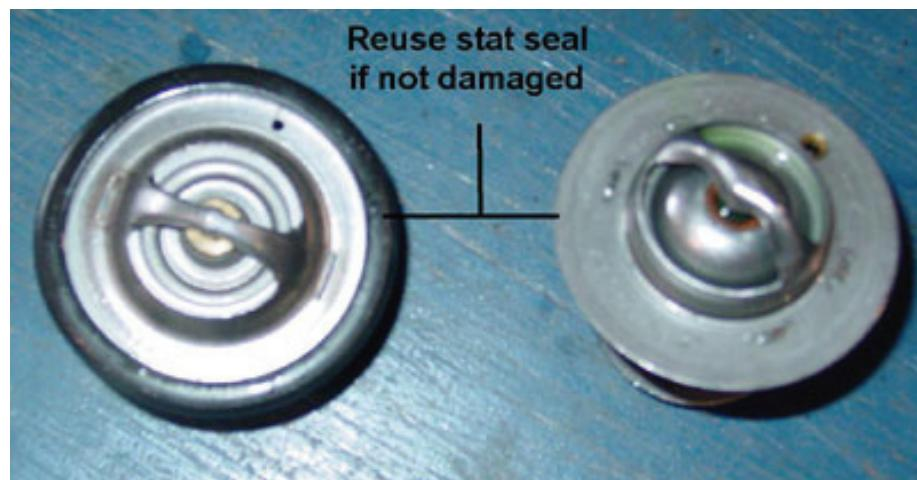

Fig. 5
5. Inspect the seal on old thermostat. If it is not damaged it can be reused. (See Fig.5)